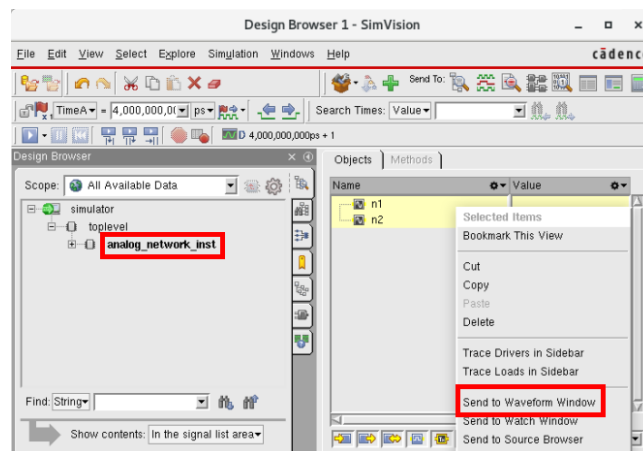

Figure 12: Send signals to waveform window
6. Browse to *analog_input_inst* and select the signals at the right (*n1* and *n2*). Right click on the selected signals and choose "Send to Waveform Window" as shown in Figure 12.